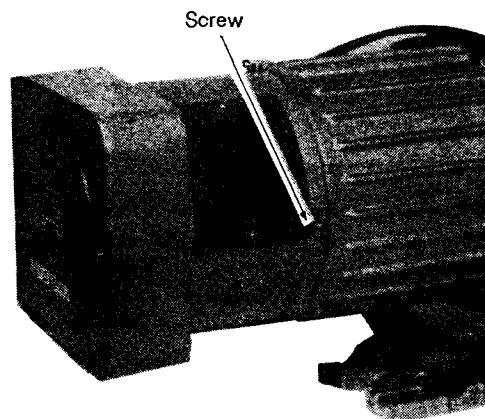

Fig. 38 Replacement of Control Box
- 3) Remove 3 screws and remove the control box. (See Fig. 38)